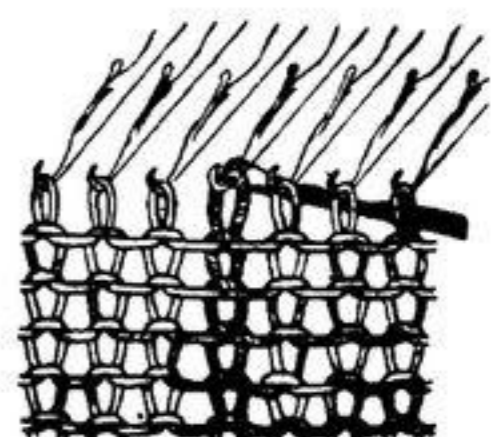

Fig. 49-5
4. Repeat with the next strand and continue to repeat until the last strand has been re-knitted. Now hang the loop on the empty needle. (Fig. 49-5)